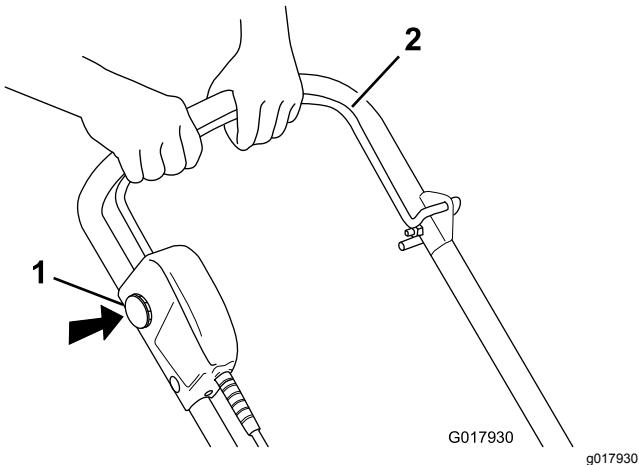

Figure 10
- To start the motor, insert the interlock key, press and hold the interlock button, and squeeze the power control bar to the handle (Figure 10).